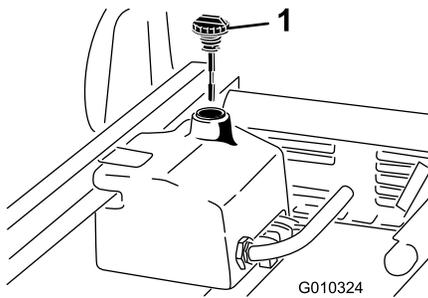

Figure 20
1. Clean the area around the filler neck and the cap of the hydraulic tank (Figure 20). Remove the cap from the filler neck.
2. Remove the dipstick (Figure 20) from the filler neck and wipe it with a clean rag. Insert the dipstick into the filler neck; then remove it and check the fluid level. The fluid level should be between the two marks on the dipstick.